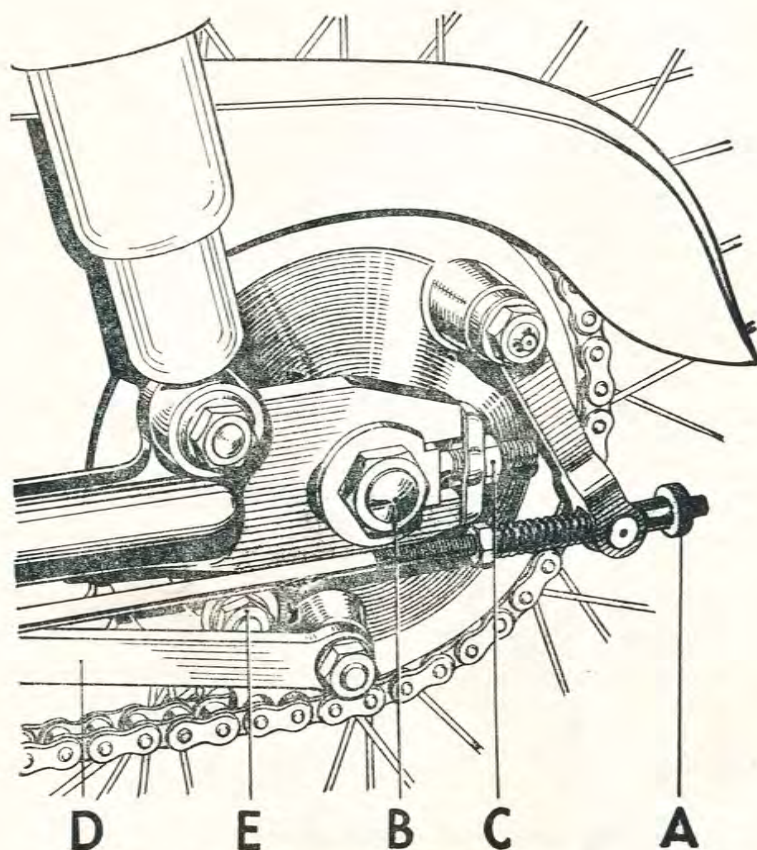

Fig. 18. Rear Chain Adjustment.
The rear brake is adjusted by turning the self-locking sleeve (A), Fig. 18, in a clockwise direction, (viewed from the rear of the machine), to shorten the effective length of the brake rod, and open the shoes in the drum.
Place the machine on its stand and disconnect the rear chain at its spring link. When removing the chain from the rear brake drum, make sure that it remains on the gearbox sprocket. Remove the brake rod adjusting nut (A) Fig. 18, followed by the anchor arm (D), and disconnect the speedometer cable at its union on the worm drive housing. Now unscrew the wheel spindle nuts (B), so that the wheel can be withdrawn rearwards from the swinging arm fork ends. It will be necessary to cant the machine to the left side, so that the wheel can be taken out from under the right side of the mudguard.
Rear Chain Adjustment (Fig. 18).
When new shoes have been fitted, the brakes must be centralized. To do this, replace the brake cover plate, complete with shoes, fulcrum pin and cam, in the brake drum. Slacken the fulcrum pin nut (E) Fig. 18, and turn the cam so as to open the brake shoes in the normal manner. The fulcrum pin will then move in its housing until both shoes are pressing equally on to the drum. Tighten the fulcrum pin nut firmly and release the brake.